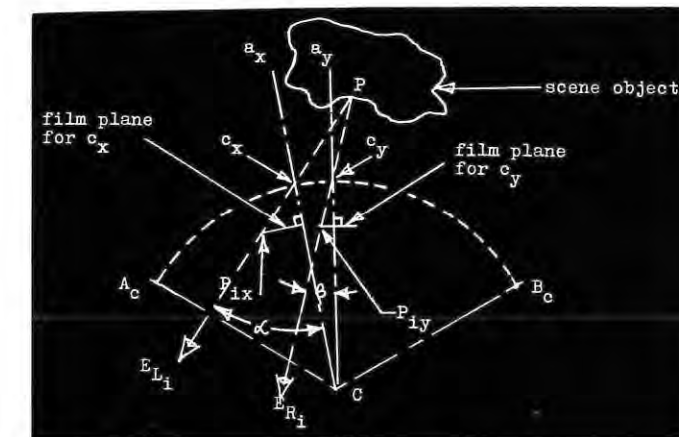
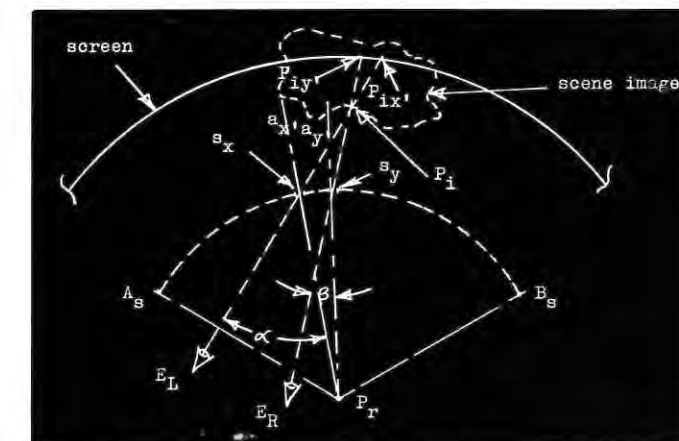

FIGURE 10: Geometry of new capture system
FIGURE 11: Geometry of new playback system
In Figures 10 and 11, the basic philosophy is shown for the capture and projection geometry. The arc $A_c B_c$ in Figure 10 has the same radius about "C" that arc $A_s B_s$ in Figure 11 has about P_r . This geometry shows how an arbitrary scene point (P) in Figure 10 is reproduced at P_i in Figure 11.
In Figure 10, arc A_c to B_c is an array of several capture points (which will be shown equivalent to 1500 pinholes, later). The near scene object point "P" for the farthest imaginary observer with left and right eyes E_{L_i} and E_{R_i} shown converging on P, generate sight-lines that intersect the arc at C_x and C_y respectively. The number of capture points equals the number of times the distance between C_x and C_y goes into the arc length A_c to B_c . Each "effective" camera's optical axis intersects at C. The optical axis for C_x and C_y are a_x and a_y respectively. The sight lines from E_{L_i} and E_{R_i} to P make angles \angle and β with a_x and a_y respectively. Hence, P is photographed on the film plane for C_x at P_{ix} and P is photographed on the film plane for C_y at P_{iy} . The pictures are sequentially photographed along arc A_c to B_c so that C_x is shot then C_y , etc.
Figure 11 shows how the same geometry is used to generate the scene image which appears identical to the scene object in Figure 10. Since all of the camera's optical axes intersect in "C", then a single projector with a sweeping optical axis at P_r that has the same angular velocity as the apparent sequential movement of the several camera optical axes, tends to simulate the sweeping action. At the location of the arc, the array of cameras is replaced with vertical slits A_s to B_s that can be triggered electrically to open in sequence. The number of slits equal the number of cameras. At a distance of about twice the slit arc radius, a concentric reflective screen is placed. The angle of projection of the sequential pictures thrown from P_r is made less than the camera. At a distance of about twice the slit arc radius, a concentric reflective screen is placed. The angle of projection of the sequential pictures thrown from P_r is made less than the camera field angle so that the same field angle is subtended by the projected frame on the screen at the corresponding slit.
It can readily be seen from this geometry that the same angles \angle and β are generated by the projected pictures so that P_{ix} intersects the screen at $P_{ix'}$ and P_{iy} intersects the screen at $P_{iy'}$. At this time, P_i can only be seen by eyes located physically at E_{L_i} and E_{R_i} which are at the same relative position as E_{L_i} and E_{R_i} in Figure 10.
The action of the projection system in Figure 11 is to sweep a successive series of pictures (1500) across the A_s to B_s arc which successively overlap on the screen and simultaneously sequentially trigger open the corresponding slits. This has the net effect of forcing all eyes behind the arc to see a true stereo picture.